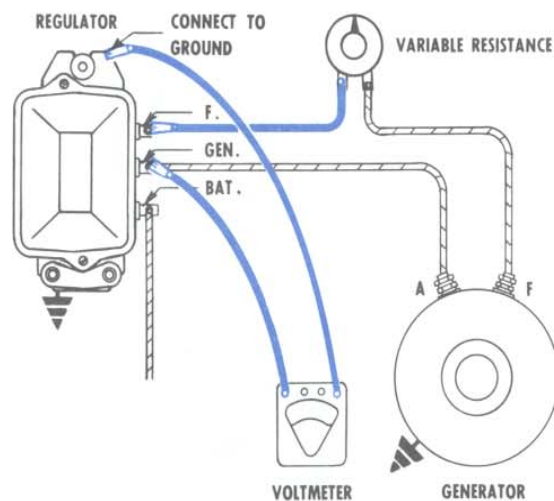

Figure 5—Voltmeter connections to check cutout relay closing voltage. Variable resistance used to control output of generator.
1. With regulator on vehicle or on a test stand connect as shown in Fig. 5.